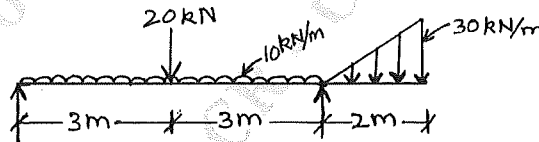

Fig.Q.6(b)
b. Analyze the beam shown in Fig.Q.6(b) and draw bending moment shear force diagram indicating the salient points. (12 Marks)